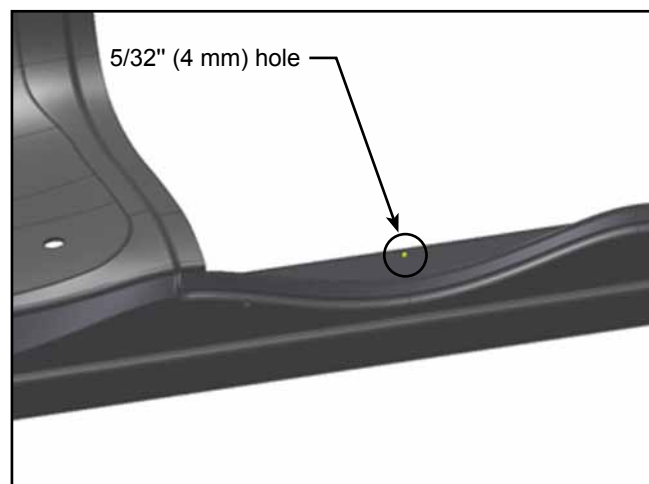

Figure 5 - Drilled Hole in Steel Underframe
1.11. Mark the steel underframe of the seat by inserting a center punch through the bushings. See Figure 5.
1.13. Locate the markings from step 1.11 and drill a 5/32" (4 mm) dia. hole through the steel underframe at both locations. See Figure 5.